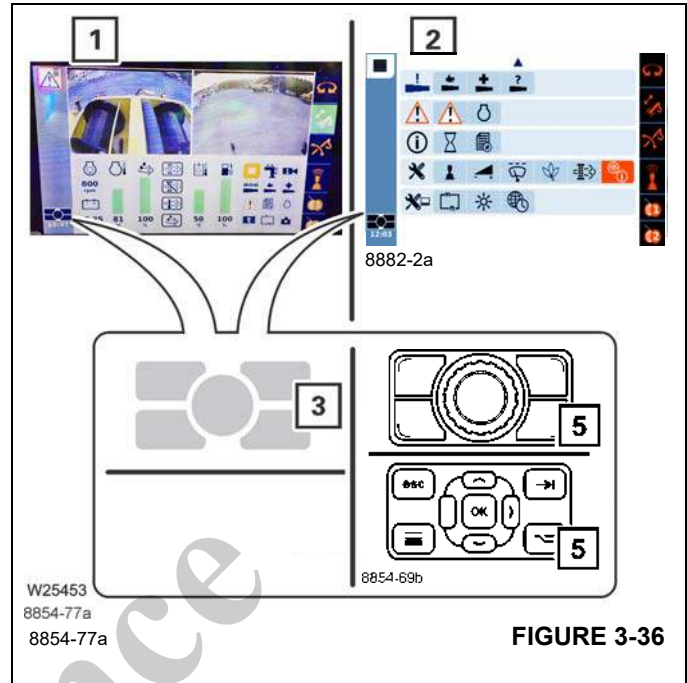

FIGURE 3-36
The symbol (3), (Figure 3-36) will appear at the bottom left hand corner of the active display, no symbol will be displayed on the inactive display. Use button (5), (Figure 3-36) of the jog dial or control panel to switch between screens.